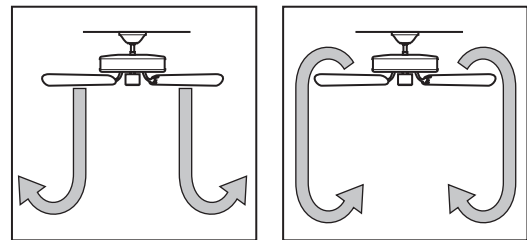

Figure 32 - Air flow patterns
4. Ceiling fans work best by blowing air downward (counterclockwise blade rotation) in warm weather to cool the room with a direct breeze. In winter, having the fan draw air upward (clockwise blade rotation) will distribute the warmer air trapped at the ceiling around the room without causing a draft. Refer to Figure 32.